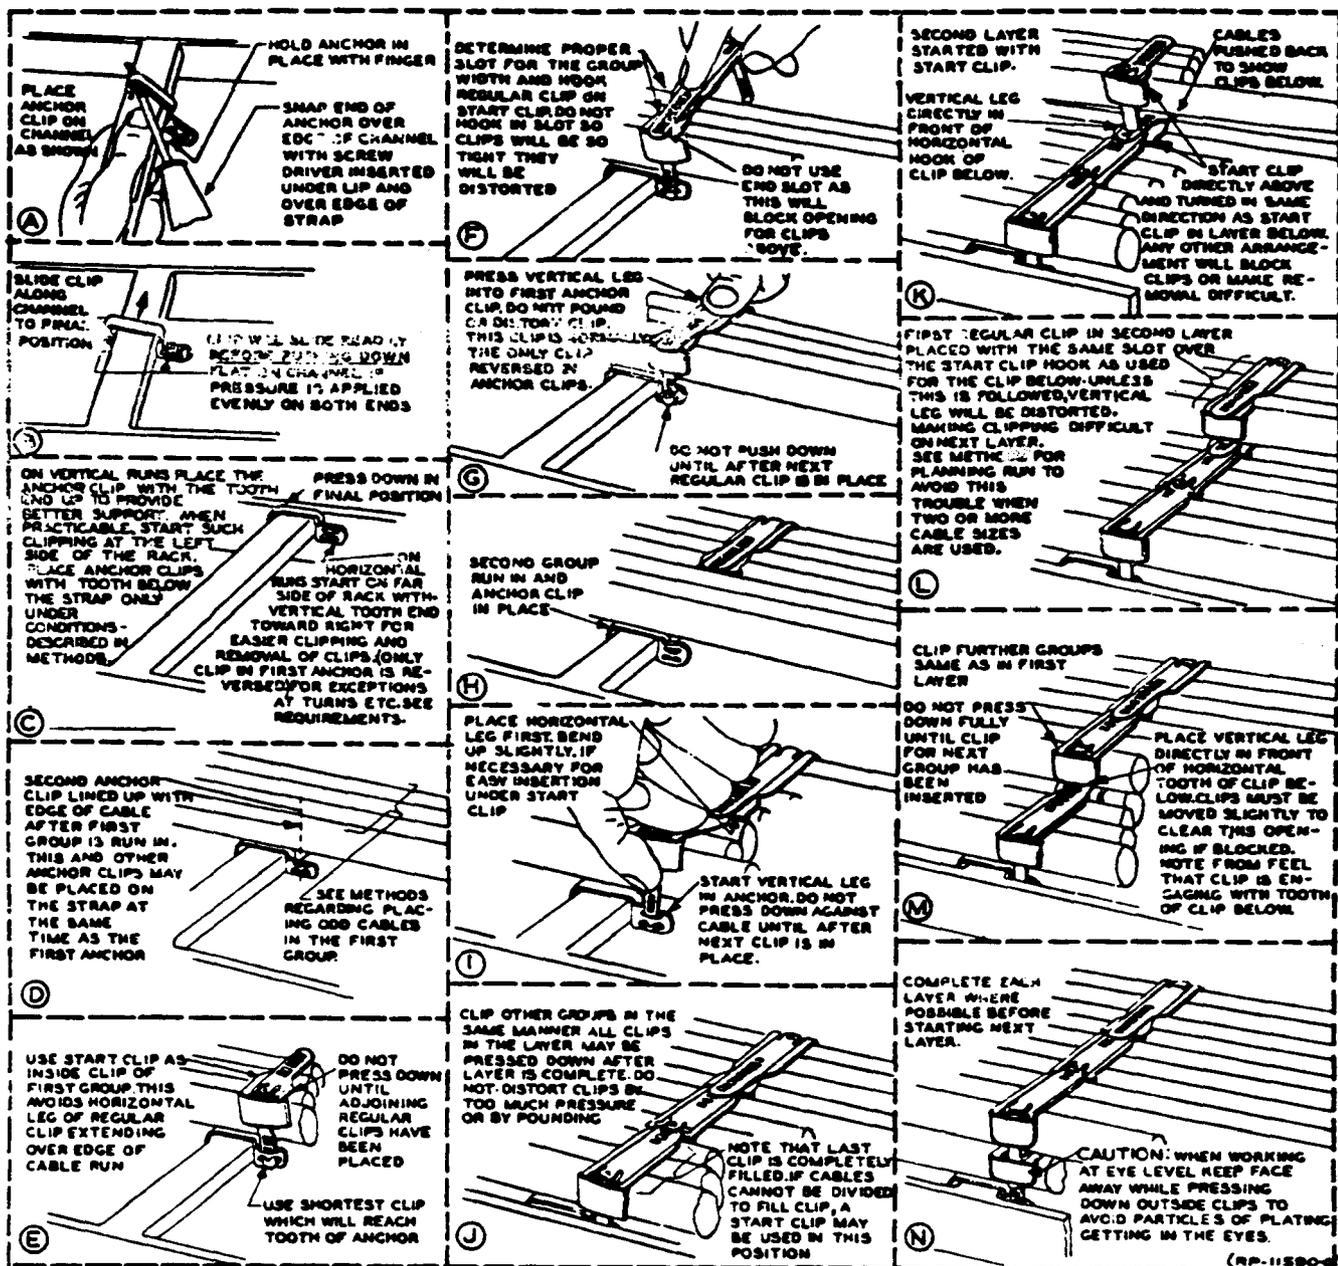

FIG. 1 METHOD OF ASSEMBLING ADJUSTABLE FLAT TYPE CLIPS
3.11 Anchor clips are mounted as illustrated and described in Figure 1 Sketches A through D.
3.21 The various steps in assembling flat type clips are illustrated and described in Figure 1.